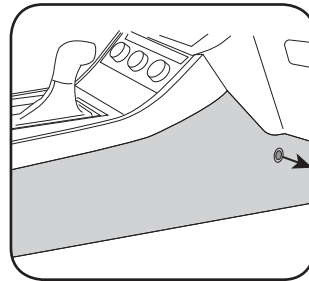

Fig. 1.10
- Remove one (1) T20 Torx screw from the center console side panel, and release the clips to remove. (Fig. 1.10)